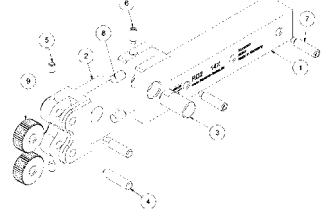
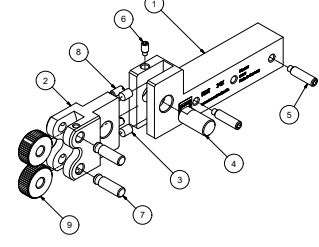
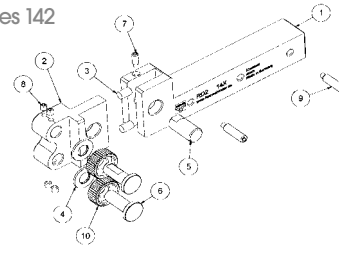

Fig. 1: Series 141 exploded drawing
Fig. 2: Series 141 / click pin exploded drawing
Fig. 3: Series 142 exploded drawing
Please specify the tool number and the corresponding position number (see Fig. 1–3).
The centre height is integrated in tool mount and corresponds to the upper shaft edge (Fig. 1, pos. 1; Fig. 2, pos. 1).
In order to guarantee a better material flow during axial machining, correct the clearance angle of the knurling holder with the threaded pin in the shank (Fig. 1, pos. 7; Fig. 2, pos. 5; Fig. 3, pos. 9) by 1-2°.
With this tool type, the knurl holder and knurling wheels can be integrated modularly rotated 180°. This is necessary when using a tool in front of or behind the rotation centre. For this purpose, unscrew the cylinder screw (Fig. 1, pos. 6; Fig. 2, pos. 6; Fig. 3, pos. 7) and remove the hinge pin (Fig. 1, pos. 3; Fig. 2, pos. 4; Fig. 3, pos. 5). Then remove the knurl holder (Fig. 1, pos. 2; Fig. 2, pos. 2; Fig. 3, pos. 2) and knurling wheels, rotate 180° and insert it in the slot of the tool shank. Re-insert the hinge pin to fasten the knurl holder and tighten the cylinder screw.
Replace the axle pin (Fig. 1, pos. 4; Fig. 2, pos. 7; Fig. 3, pos. 6) or collar stud (Fig. 3, pos. 6) and race (Fig. 3, pos. 4) and ClickPin system (Fig. 2, pos. 8) after a reasonable number of cycles, no later than upon appearance of significant wear or deviating process parameters. Inspect the slot of the knurl holder for wear and widening. An adequate flow of coolant or cutting oil is recommended!